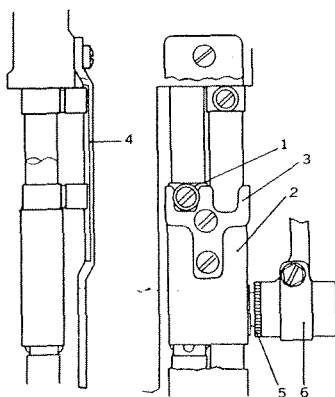

FIG. 38
PREVENTION OF NEEDLE BAR ROTATION (Fig. 38)
Needle bar position guide (1) in conjunction with the bifurcated needle bar position bracket (3), attached to needle bar connecting stud (2) Fig. 38 in conjunction with needle bar position guide plate (4) keep the needle bar from rotating. In the operating mode, bracket (3) serves this purpose, while when a needle bar is stopped the channels embossed into the guide plate (4) prevent rotation.
The exact vertical position of the needle bars is important for their trouble-free engagement and disengagement, respectively, since their positions are fixed within the needle bar rock frame (2) Fig. 40B. For the purpose of making the required fine adjustment of the needle bar position, and eccentric bushing (5) Fig. 38 is provided in needle bar connecting link (6).